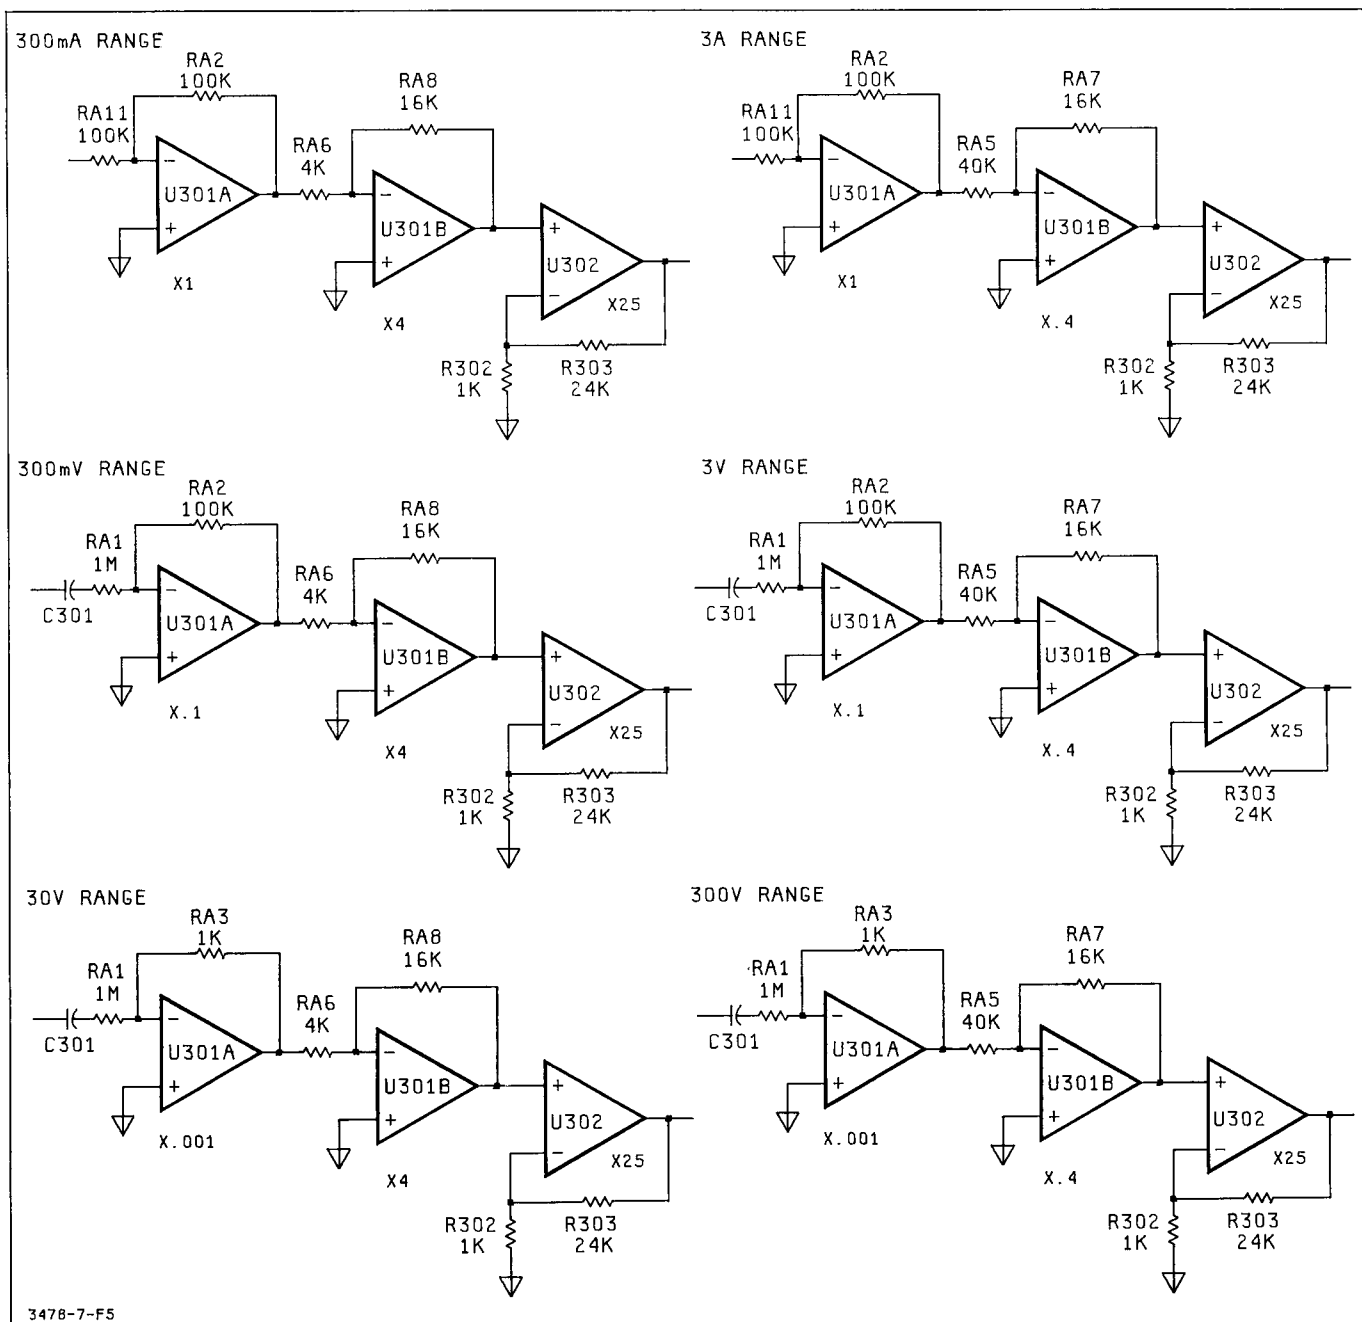

Figure 7-F-5. AC Gain Configurations
7-F-28. Amplifier Stages. Refer to Figure 7-F-5 and Schematic 2 for the following explanation.
a. The first amplifier stage (U301A) is an inverting amplifier with gains of X.001, X.1, or X1 (dependent on the ac range and function selected). The gains are determined by resistors RA1, RA2, RA3, and RA11 (all in U102), as shown in Figure 7-F-5. Capacitor C302 and resistor R305 are used for high frequency compensation (for flat gains at high frequency). The gain determining resistors are selected by MOSFETS S1AC through S6AC, and S11AC (all in U102) which operate as switches. The gains of the amplifier and FETs selected for the ac functions are listed in Table 7-F-2.